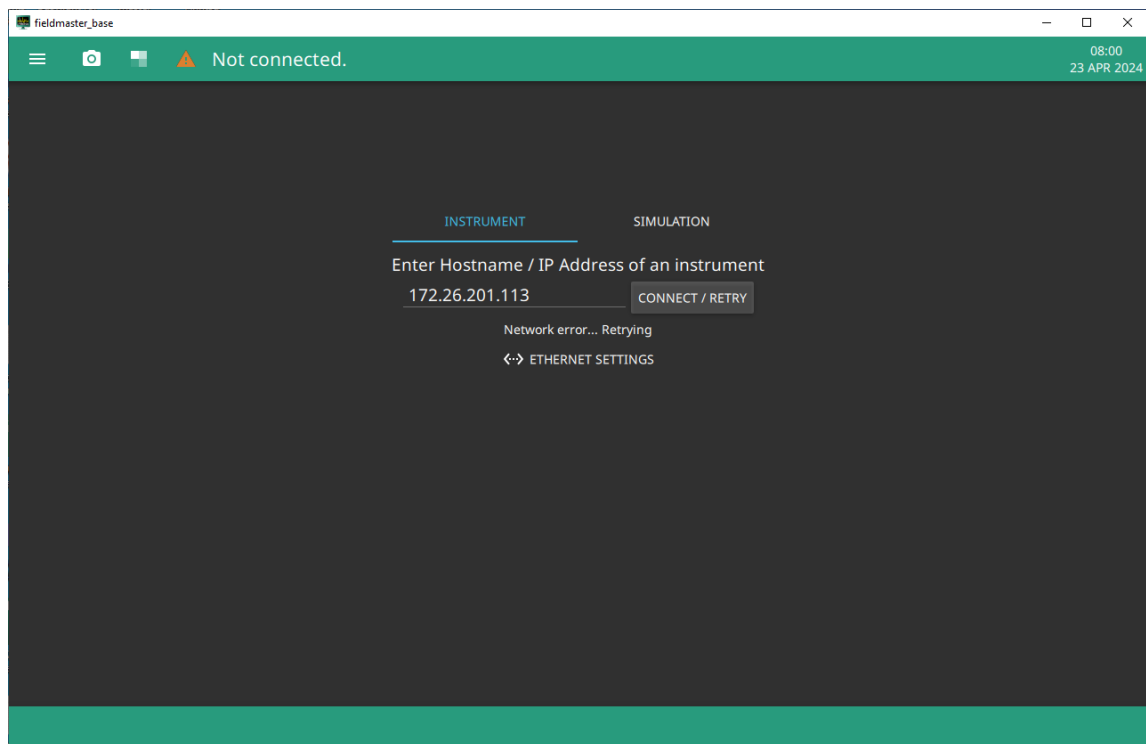

Figure A-2. Connecting to Instrument using Hostname/IP Address
2. Enter either Hostname/IP address in the field provided under the INSTRUMENT tab. See Figure A-2.